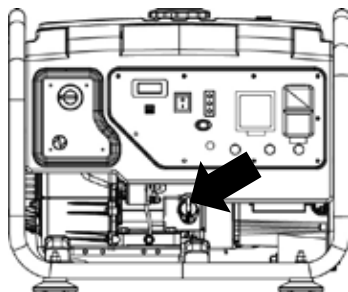

Figure 9: Oil fill plug/dipstick location
5. Remove the oil fill plug/dipstick (see Figure 9).